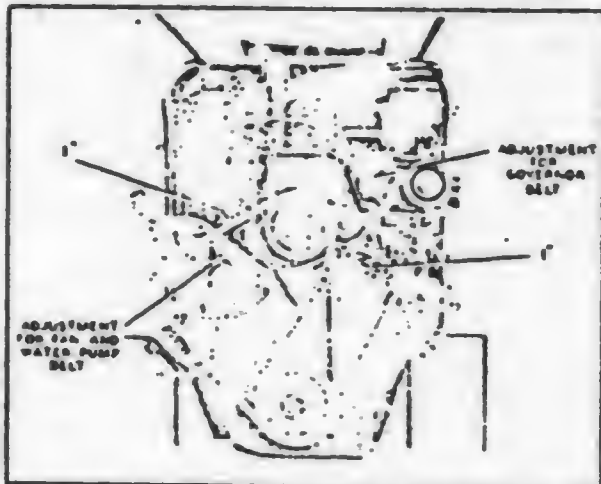

FIG. 18 FAN AND GOVERNOR BELT ADJUSTMENTS
(8) *Fan and Governor Belts.*—Inspect the fan and governor belts. If not in good condition, replace with new ones. Adjust the belt tension so that the top side of the belt can be depressed about 1 $\frac{1}{4}$ " to 1 $\frac{1}{2}$ ". The fan belt is adjusted by loosening the clamp bolt in the slotted bracket at the idle pulley, moving the idle pulley to obtain proper tension, then tightening the bolt. Slotted holes in the governor bracket permit adjusting the governor belt in a similar manner. See Fig. 18.